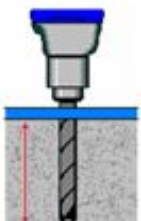

Fig. 3
1. Drill anchor holes for expansion bolts on the ground with an electrical drill. Make sure to drill vertically (**fig 3**).